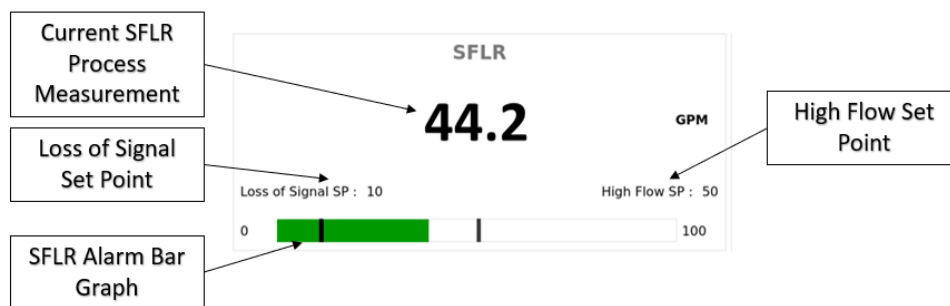

Figure 46: SFLR Application Home Screen
**SFLR Only:** When PPR is configured for SFLR applications the home screen space typically reserved for Inputs 3 will automatically be updated to display as shown in Figure 46 below.